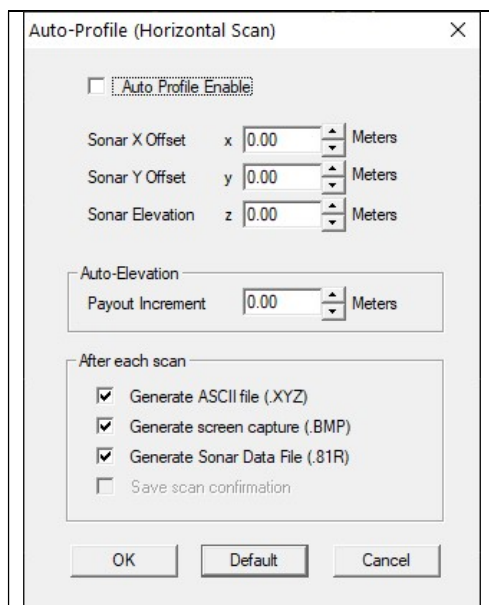

Figure 12 Auto Profile
- Auto Profile Enabled is checked (see Figure 12).
- Auto Profile Enable is checked (see Figure 12), but a value of 0.00 is entered into the Payout Increment textbox.